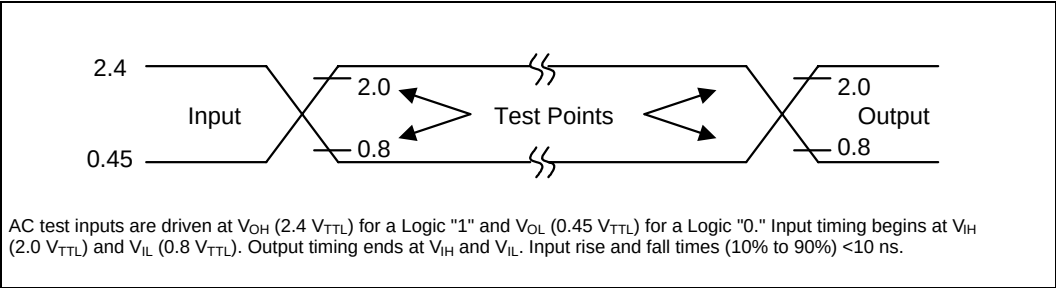

Figure 13. Transient Input/Output Reference Waveform for $V_{CCQ} = 5.0\text{ V} \pm 10\%$ (Standard Testing Configuration)
4. See Figures 13–15, *Transient Input/Output Reference Waveform for $V_{CCQ} = 5.0\text{ V} \pm 10\%$* , *Transient Input/Output Reference Waveform for $V_{CCQ} = 2.7\text{ V} - 3.6\text{ V}$* , and *Transient Equivalent Testing Load Circuit* for testing characteristics.